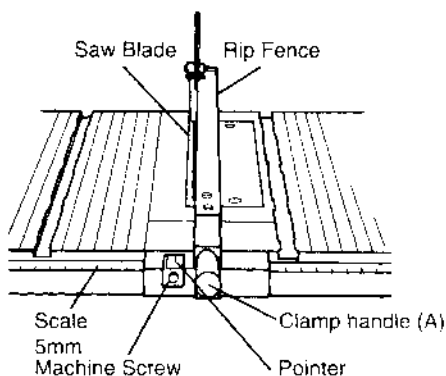

Fig.18
- (1) Loosen clamp handle (A) and move the rip fence to bring it into tight contact with the side of the saw blade.
- (2) Make sure that the point points to 0 on the scale provided on the table.
- (3) If the pointer does not point to 0 on the scale.
- ① Tighten clamp handle (A).
- ② Loosen the 5mm machine screw holding the pointer (see Fig.18).
- ③ Adjust the pointer to the 0 position and retighten the 5mm machine screw.
- ④ After adjustment, recheck to see that the pointer now points to 0.